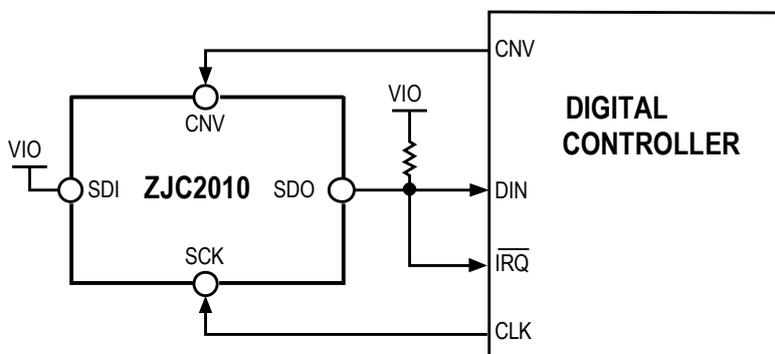
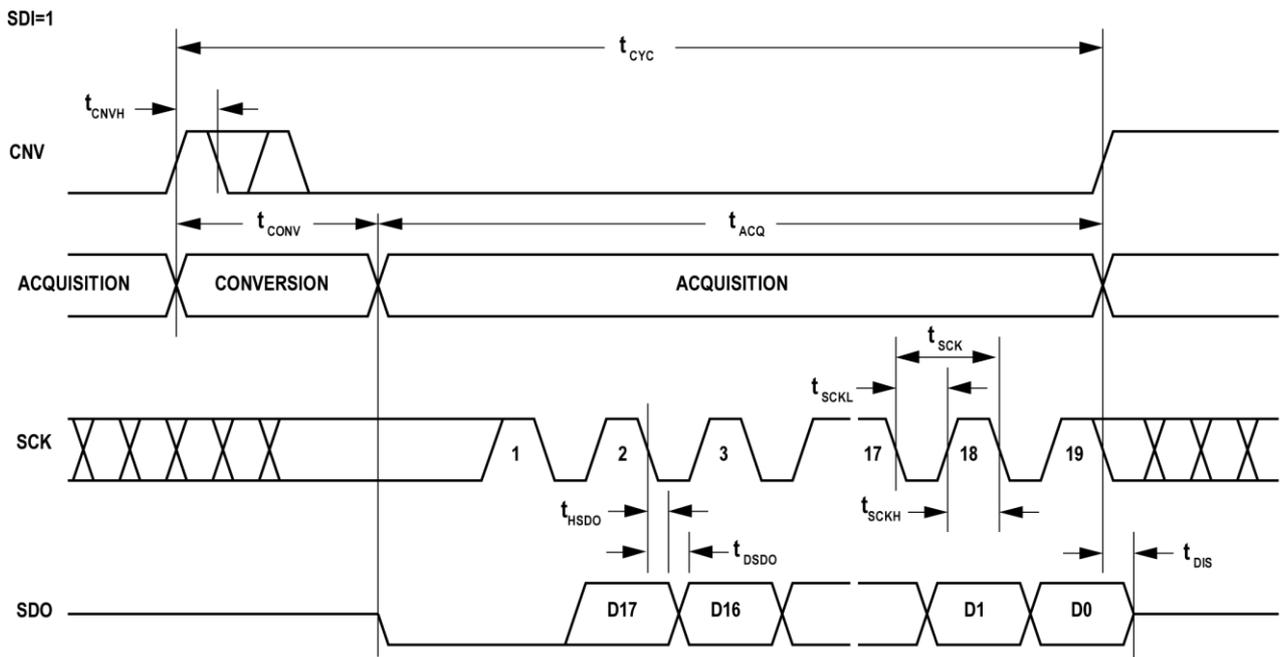
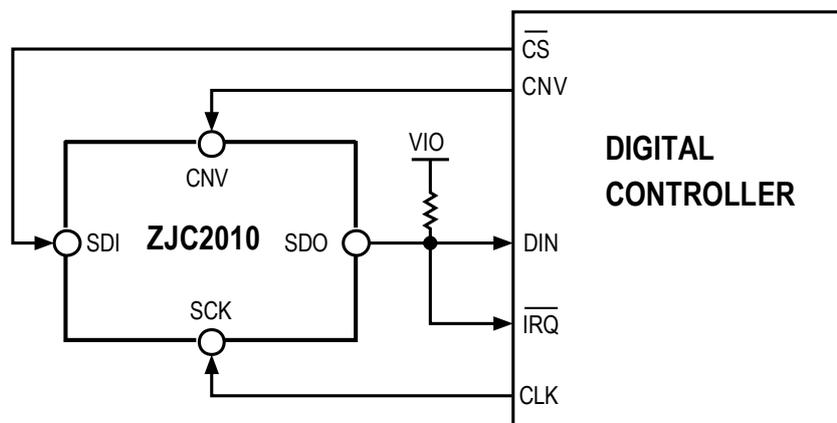
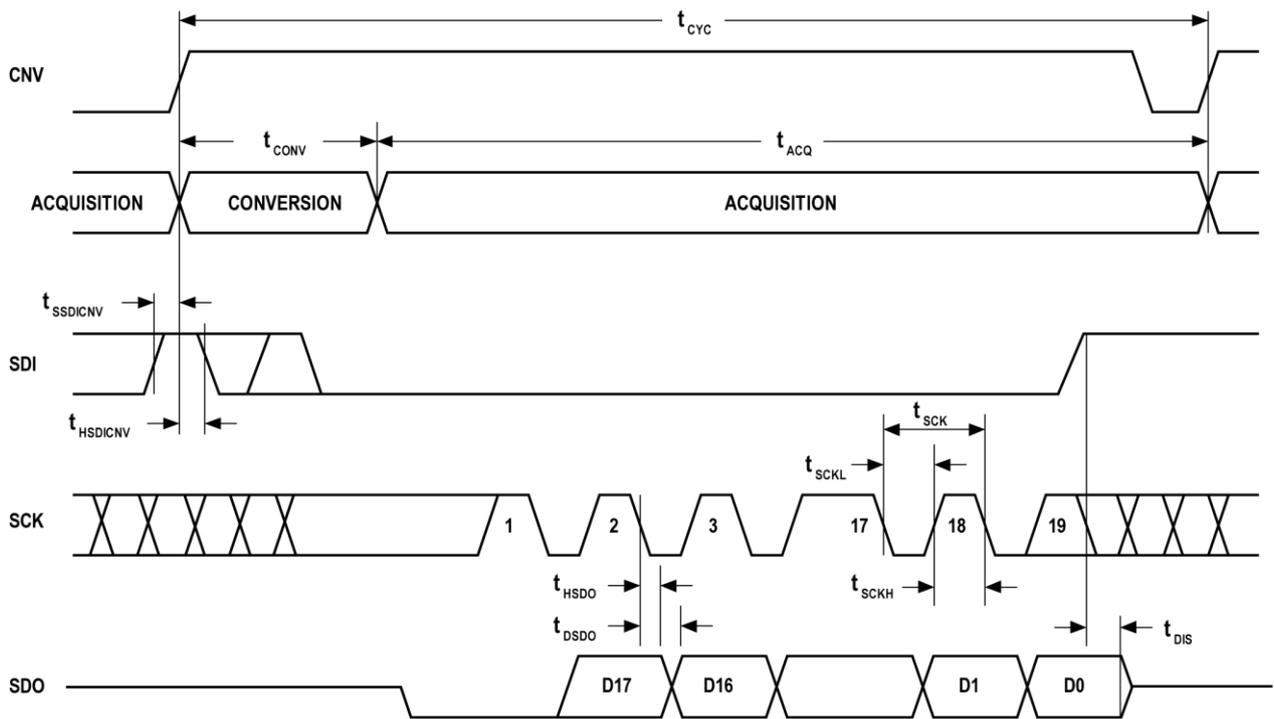

Figure 40. Chip select mode (three-wire type with busy indication) connection diagram
Figure 41. \overline{CS} Mode (3-Wire with Busy Indication) Serial Interface Timing
Figure 44. \overline{CS} Mode (4-Wire with Busy Indication) Connection Diagram
Figure 45. \overline{CS} Mode (4-wire with Busy Indication) Serial Interface Timing
- In $\overline{\text{CS}}$ mode, CNV or SDI is low at the end of ADC conversion (see Figure 41 and Figure 45).
This mode can be used when a single ZJC2010 is connected to an SPI-compatible digital host with an interrupt input. The connections are shown in Figure 40 and the corresponding timing is shown in Figure 41.
The connection is shown in Figure 44 and the corresponding timing is shown in Figure 45.